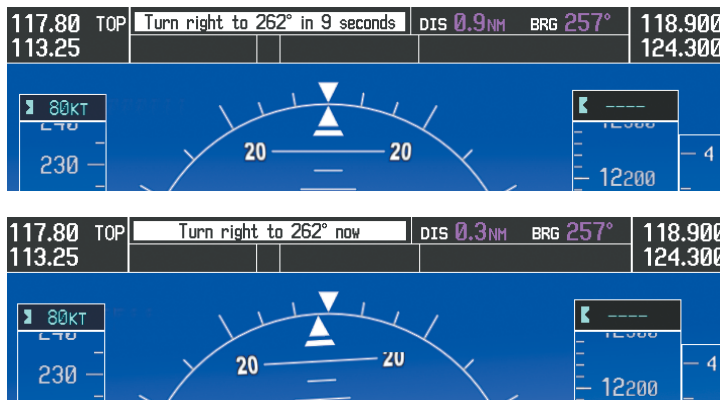

Figure 5-118 Turn to Intercept V244
8) At SLN, Victor Airway 244 (V244) is intercepted. Turn prompts are displayed in the PFD Navigation Status Box as seen in Figure 5-118.